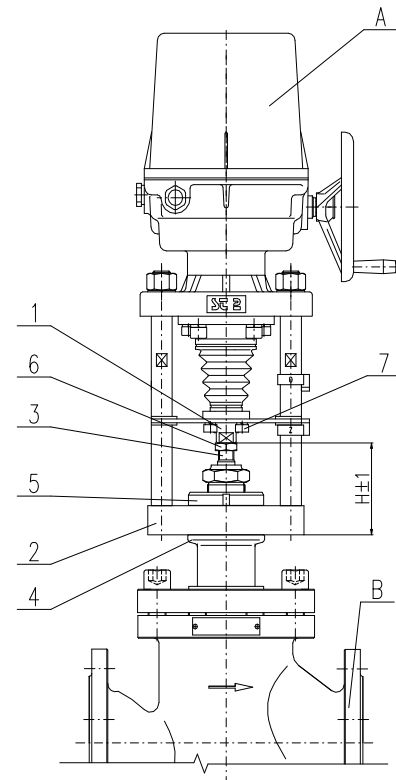

Fig.2
### Mechanical connection for pillar versions with flanges (fig.2)
- Set the actuator (A) to mid-position and the valve (B) to the position "closed".
- Loosen four screws (7) the coupling clamping parts (1) on the actuator shaft
- Place the actuator (A) onto the valve (4) and fix the actuator slightly with the screws, or with the central nut (5) (according to shape of connecting flange of EA) in the way you be able to move it.
- By turning hand wheel (1) move thread coupling EA toward shaft of the valve
- Tighten the screws, or central nut (5) with the cross system to fasten the actuator (2) and valve (4) flanges.
- Check the connection diameters in accordance with the Fig. 2.
- Unscrew the coupling nut (1) by one more revolution (to create the pre-stress against the valve seat), and tighten the coupling screws (7) firmly